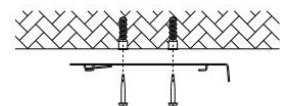

Figure 5
Step 3:Drill the rubber plug into the ceiling (Figure 5).